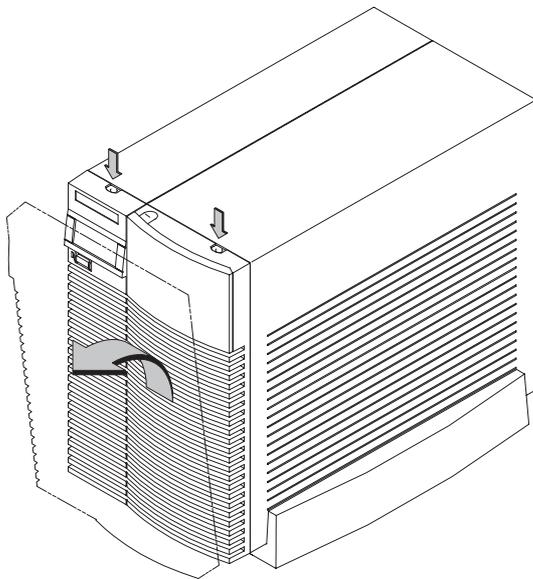

Figure 5-9. Opening the System Unit
2. Release the front cover by pushing in the two locking tabs at the front of the system unit as shown in Figure 5-9.